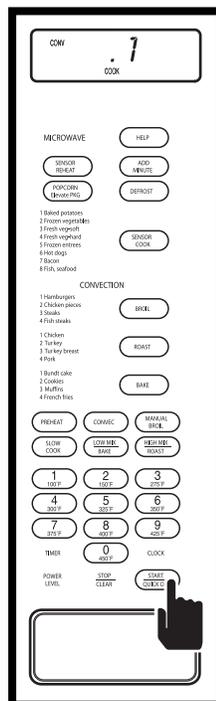

FIGURE 3-88.
4. Press QUICK ON/START key. Timer will start the count at 1 second. (See Figure 3-88)